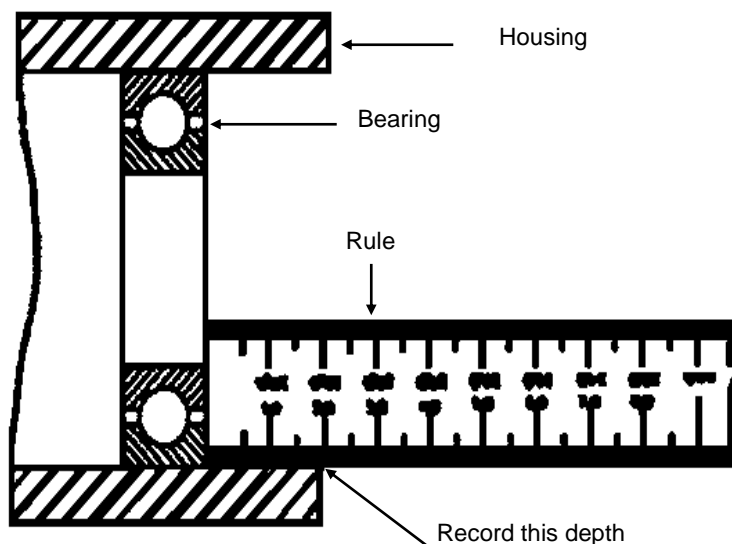

FIG 3.
- D. Measure the depth of the bearing in the housing and record it. (Fig 3)